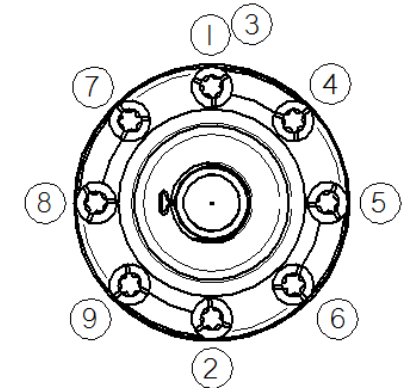

Figure 4
- 8) On the transfer case CVJ, use the new supplied hardware kit. Note: *It will look like your original hardware.* Torque all eight bolts to 37 Nm (27 ft-lbs) using the torque sequence shown in figure 4. The first bolt you torque will be torqued a second time after bolt number two is torqued.